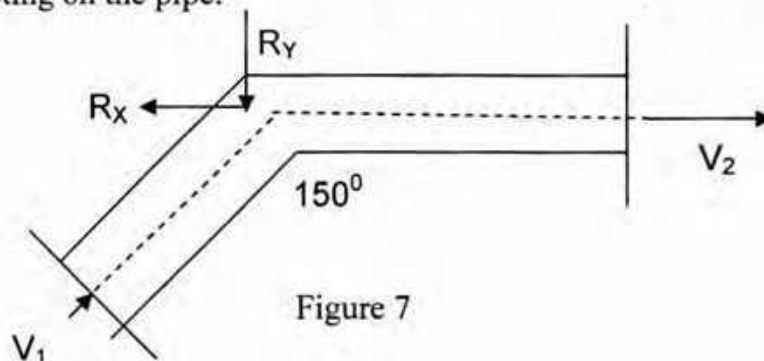

Figure 7
- b. Water enters in a  $150^\circ$  horizontal reducing pipe with a velocity of 5 m/sec and a pressure of  $50 \text{ kN/m}^2$  as shown in Figure 7. If the diameters at the entrance and exit sections are 40 cm and 20 cm, respectively, calculate the components of the reaction e.g.  $R_x$  and  $R_y$  acting on the pipe. 14